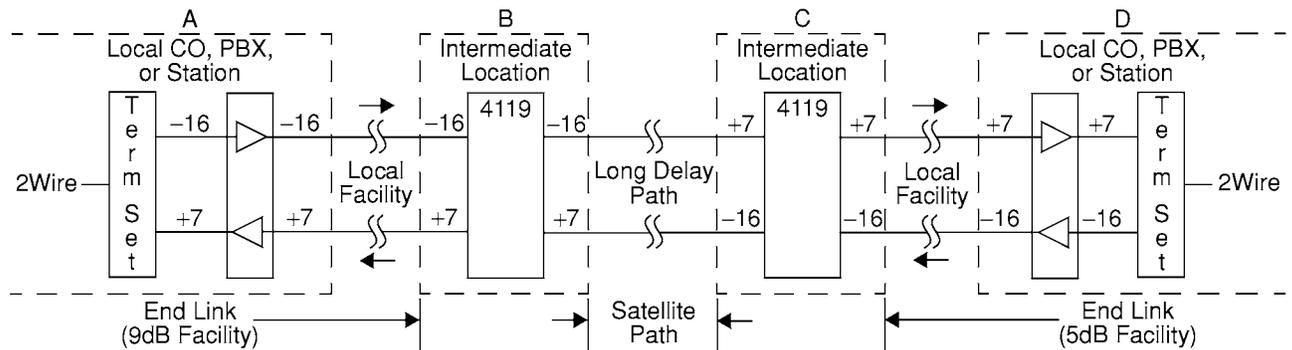

Figure 2-1 Typical 4119 Module Conventional Application
- 2.3 In conventional applications, echo cancellers are located on the terminal equipment side of SF signaling units and therefore do not have to contend with SF signaling tone. This is an application of the 4119 Module only, and is depicted in Figure 2-1.